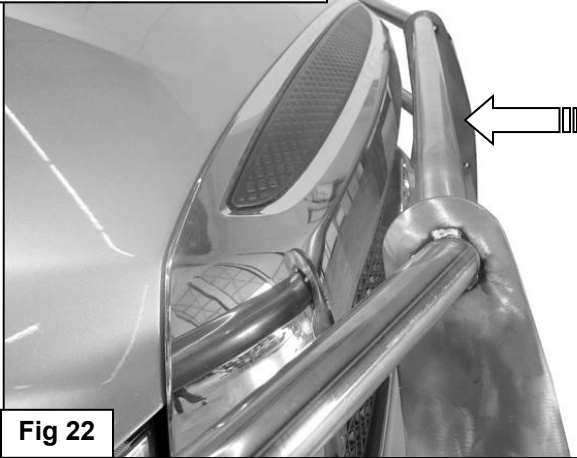

Fig 22
20. Push the Grille Guard back towards the vehicle and fully tighten all hardware, (Figures 22 & 23). Reattach the bottom of the bumper cover with the factory hardware, (Figure 4).
26. Once the hood is completely closed, push the Grille Guard back to its "closed," upright position and tighten all hardware on the Grille Guard, (Figure 22). Push down on the Quick Release lever to tighten, (Figure 23). No tools are required to close the Quick Release levers. It will require some effort to open and close by hand when properly adjusted. Loosen or tighten the 10mm Nylon Lock Nut on the Quick Release bolt to adjust the clamping pressure.